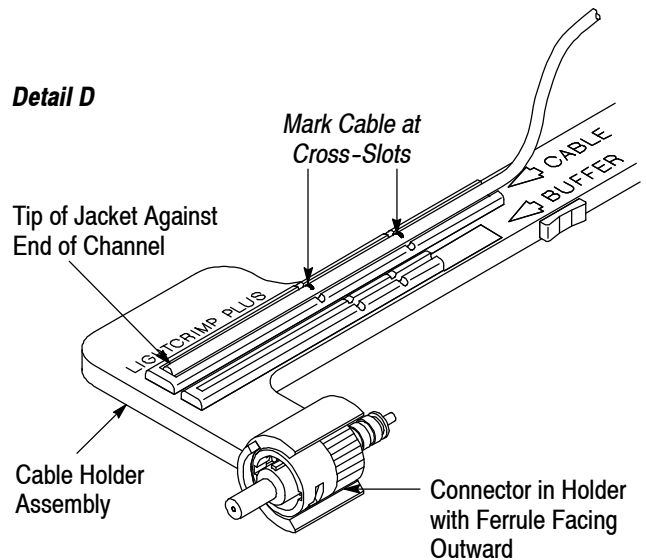

Figure 3: Preparing the Cable
5. Using the outer notch of strip tool, cut through the jacket at each mark. See Figure 3, Detail A.
6. Remove the first jacket segment, and flare the strength members away from the buffer. Using the scissors, cut the strength members even with the jacket. Then, remove the remaining jacket segment. See Figure 3, Detail B.
7. Slide the crimp eyelet onto the buffer and, using the crimp eyelet, fold the strength members back over the jacket. Continue sliding the crimp eyelet over the jacket until the strength members appear at the front of the crimp eyelet. See Figure 3, Detail C.
7. Using the outer notch of the strip tool, cut through the jacket at each mark. See Figure 3, Detail A.
8. Remove the first jacket segment, and flare the strength members away from the buffer. Using the scissors, cut the strength members even with the jacket. Then, remove the remaining jacket segment. See Figure 3, Detail B.
9. Slide the crimp eyelet onto the buffer and, using the crimp eyelet, fold the strength members back over the jacket. Continue sliding the crimp eyelet over the jacket until the strength members appear at the front of the crimp eyelet. See Figure 3, Detail C.
10. Using the center notch of the strip tool, cut the buffer tube flush with the end of the cable jacket. Remove the cut piece of tubing. See Figure 3, Detail D.
11. For cable with 500- μ m BOF, using the center notch of the strip tool, remove the buffer coating from the exposed fiber, leaving the 250- μ m coated fiber. It might be necessary to use the strip tool several times to remove all of the buffer coating. See Figure 3, Detail D.